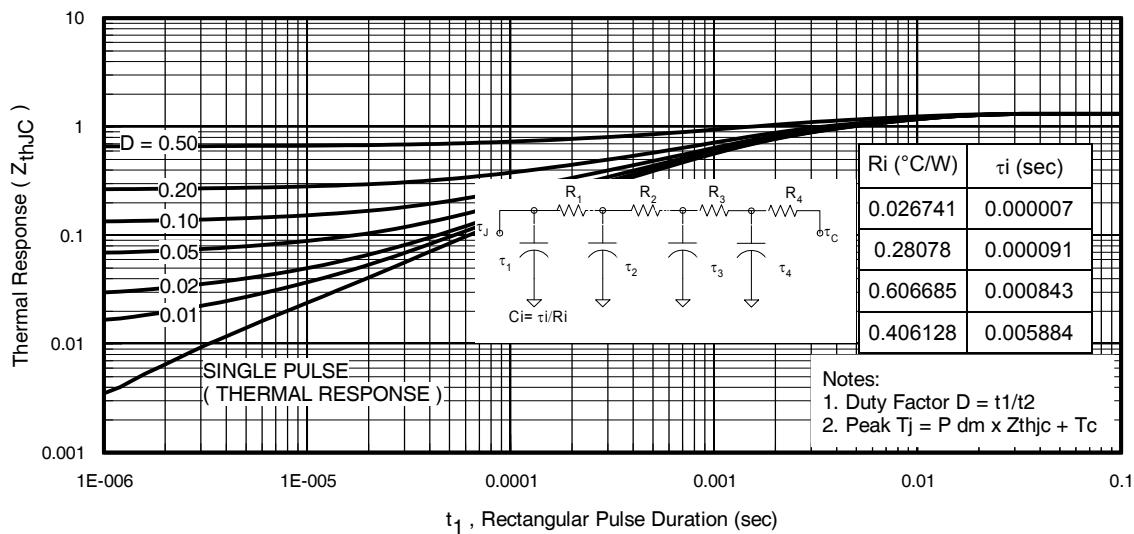

Fig 13. Maximum Effective Transient Thermal Impedance, Junction-to-Case
7. ΔT = Allowable rise in junction temperature, not to exceed T_{jmax} (assumed as $25^{\circ}C$ in Figure 13, 14).
$Z_{thJC}(D, t_{av})$ = Transient thermal resistance, see Figures 13)